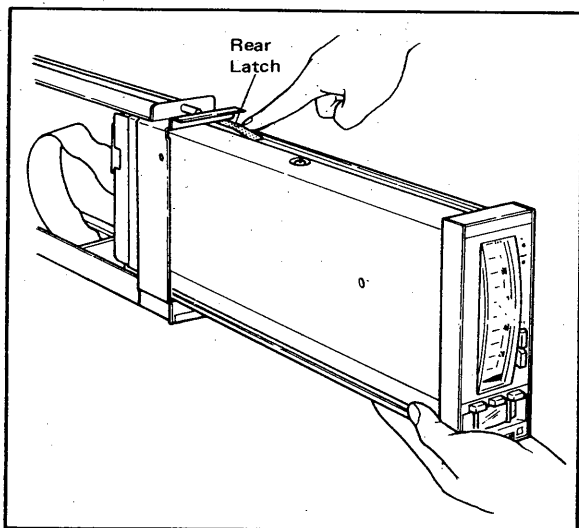

Figure 5-7. Removal of Internal Assembly.
- (2) To completely remove the internal assembly from the housing, pull it out while pressing the rear latch (see Figure 5-7).